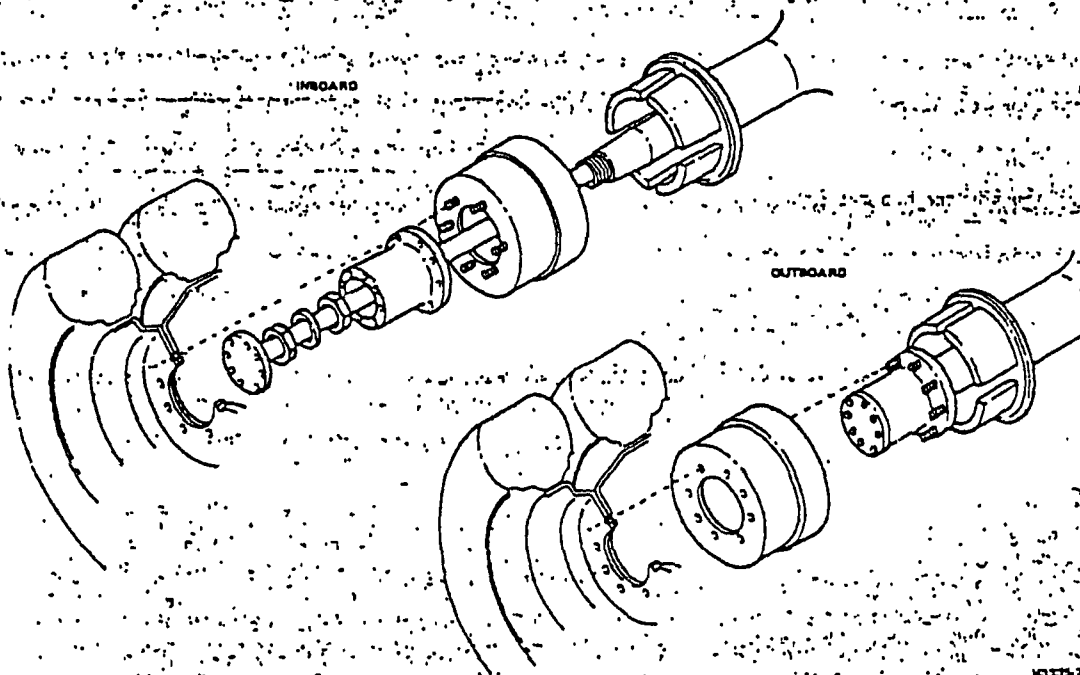

FIG. 6 Brake Drum Mountings
1. Raise the vehicle until the tire clears the floor and install safety stands. Remove the nuts retaining the tire and wheel assembly to the hub (Fig. 6).